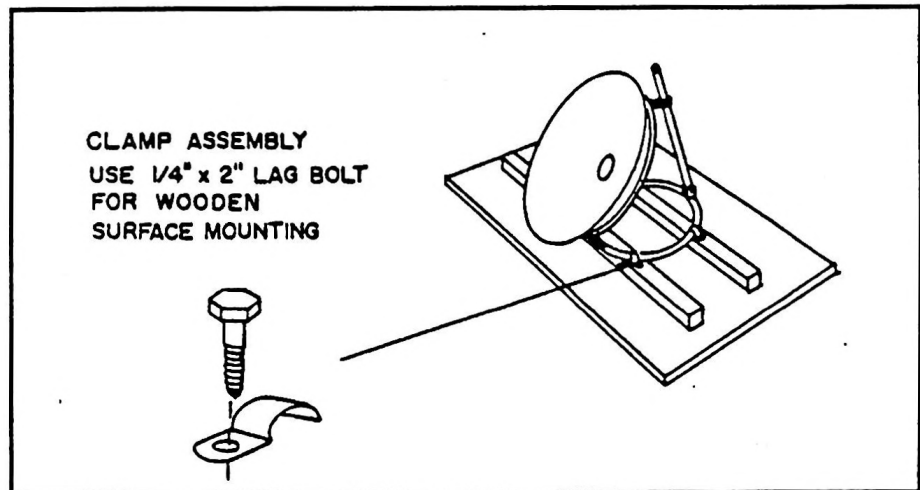
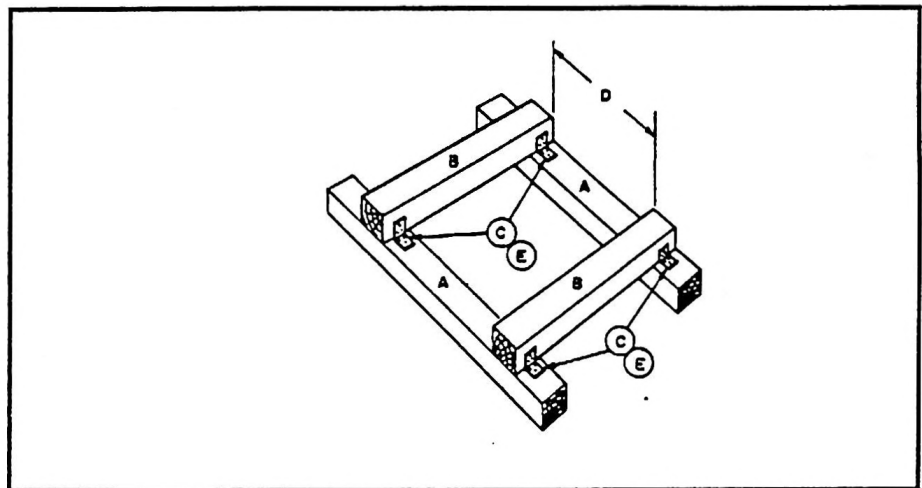

Figure 4-3. Roof Mount on Battens
Figure 4-4. Support Frame for Roof Mount
1. Nail or bolt two 4- x 4- x 36-inch (10 x 10 x 91 cm) battens to roof as shown in Figure 4-3.
2. Set the assembled reflector and mounting ring on the roof battens as shown in Figure 4-3 (or use the frame shown in Figure 4-4).
If battens cannot be attached to the roof surface, construct a wooden frame as shown in Figure 4-4 or purchase a similar sized commercial antenna mount. Lay two 90-pound bags of cement across the frame members to hold the frame in position.